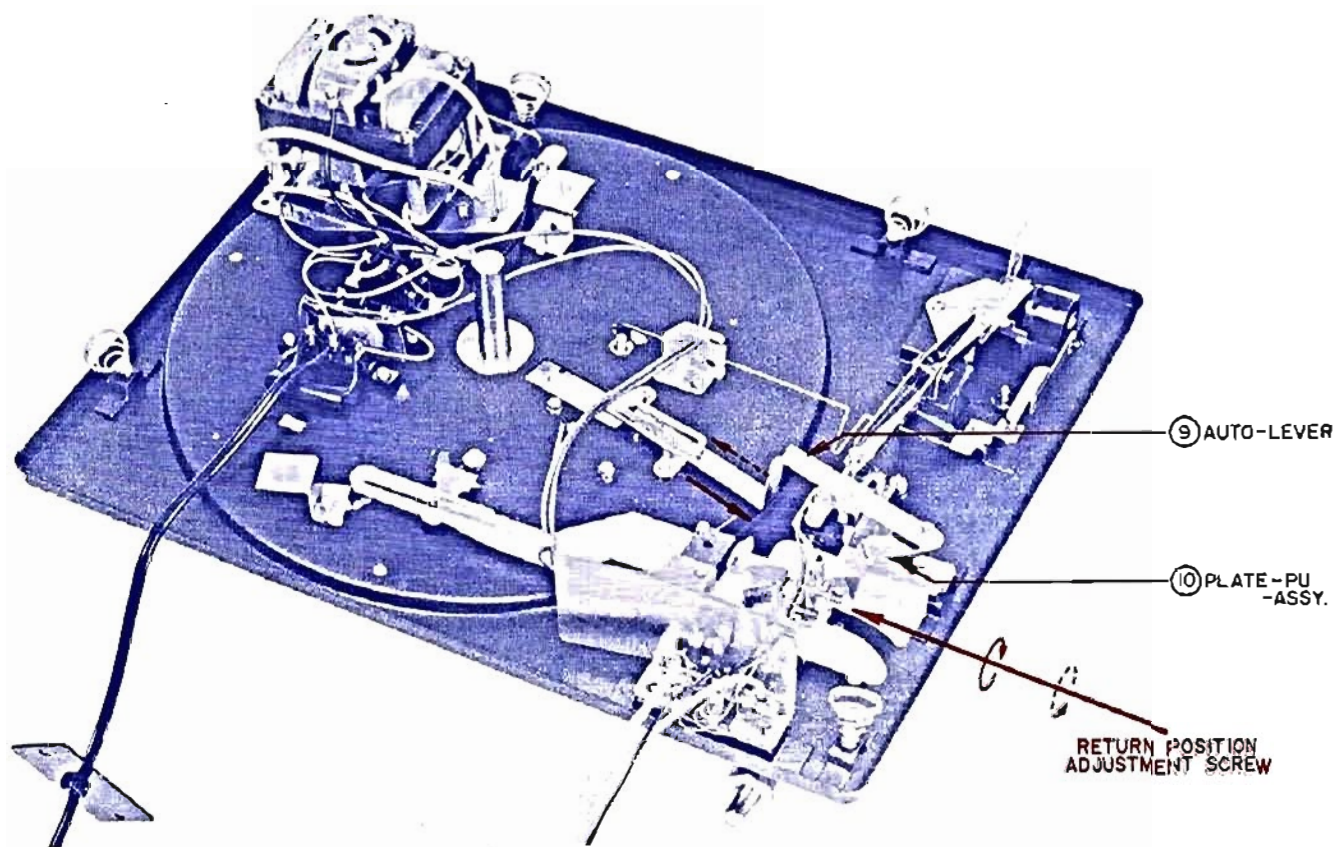

Fig. 14
(1) RETURN POSITION ADJUSTMENT
Remove turntable and loosen the plate holder metal fitting (PLATE LOCK (20)). This can be accomplished after loosening the two installation screws (19) on the table mount 2 or 3 turns. (Fig. 15) Because this separates the table mount and the cabinet by a considerable degree, the return position adjustment screw (18) located on the reverse side of the PU Arm becomes accessible. Adjust with plus driver (Fig. 14) As shown in Fig. 14 when the adjustment screw is turned to the right (in direction of solid line), the return position is slowed (inside circumference approach) and when the adjustment screw is turned to the left (in direction of broken line), the return position is speeded up (outside circumference approach). (When the adjustment screw is turned 1 revolution, the position of the PU Arm stylus tip is changed by about 8 mm).